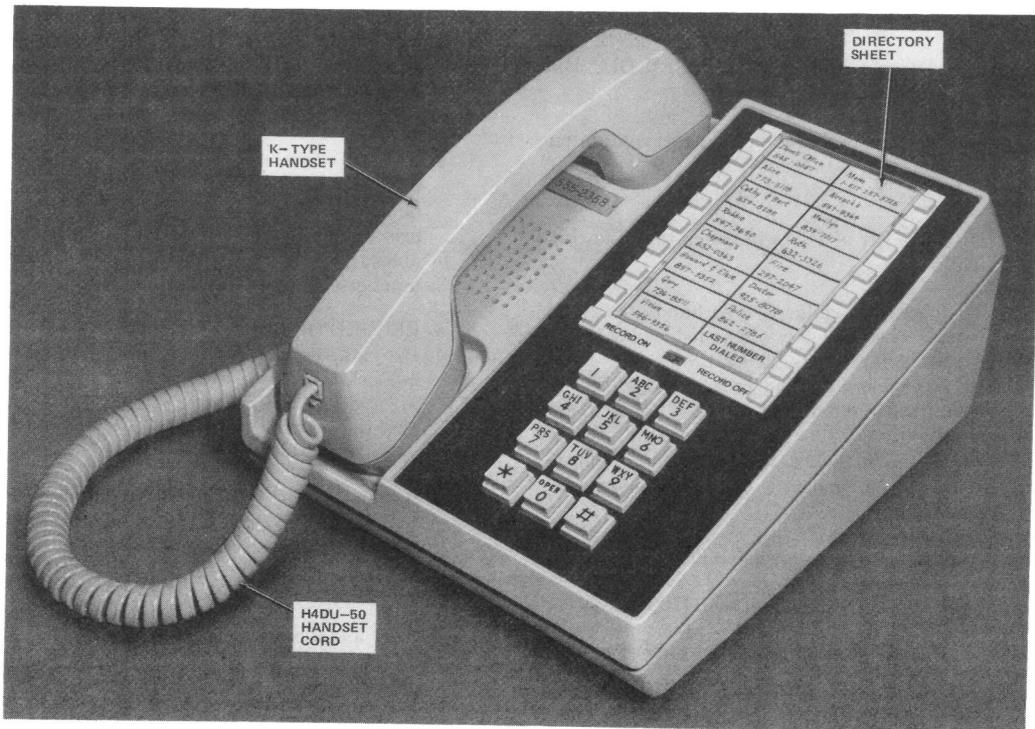

Fig. 1—2960A01M (MD) Telephone Set
1.01 This section contains information on the 2960A01M manufacture discontinued (MD) telephone set. This set is shipped from the factory as a desk set (Fig. 1) and can easily be converted to a wall set with no additional parts required.